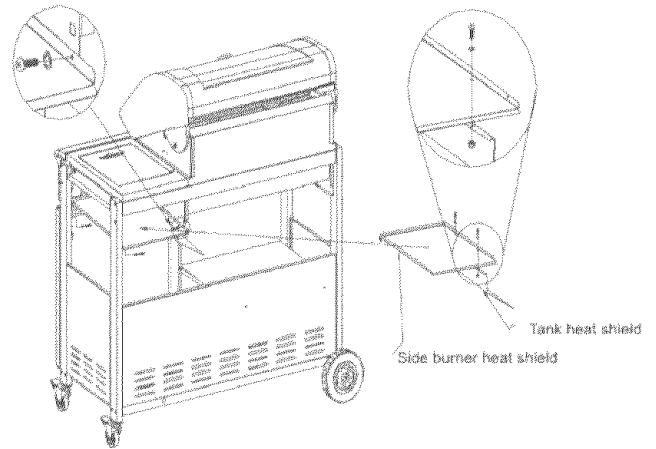

Figure 12
4. Using (2) $\frac{5}{32}$ x $\frac{2}{5}$ " Phillips head screws and (2) $\frac{5}{32}$ " lock washers, attach the side burner heat shield and tank heat shield together. Use (4) $\frac{5}{32}$ x $\frac{2}{5}$ " Phillips head screws with (4) $\frac{5}{32}$ " lock washers to attach the shield assembly to the leg and firebox bottom. See (Fig 12.)